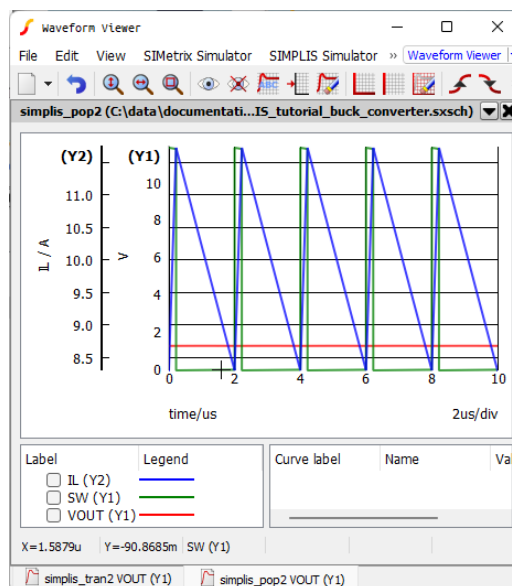

Figure 14: Waveforms for POP analysis
5. Once the analysis directive parameters have been entered, click the “Run” button or click “Ok” to save the data. Press F9 to run the simulation. The waveform viewer window will open with the converter’s steady-state waveform. Notice that the converter shows no setting behavior and the waveforms are in perfect steady-state (see Figure 14).